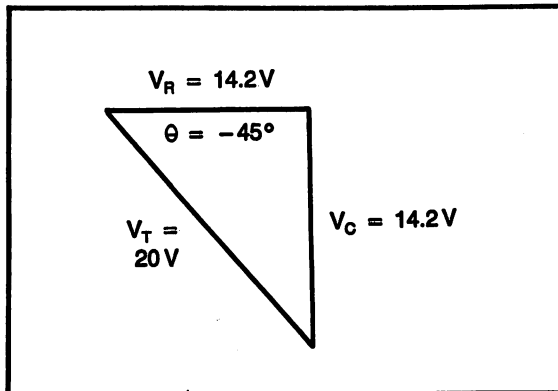

Fig. 14-8. Voltage triangle for sample problem 14-9.
Step 3. Voltage triangle, Fig. 14-8.